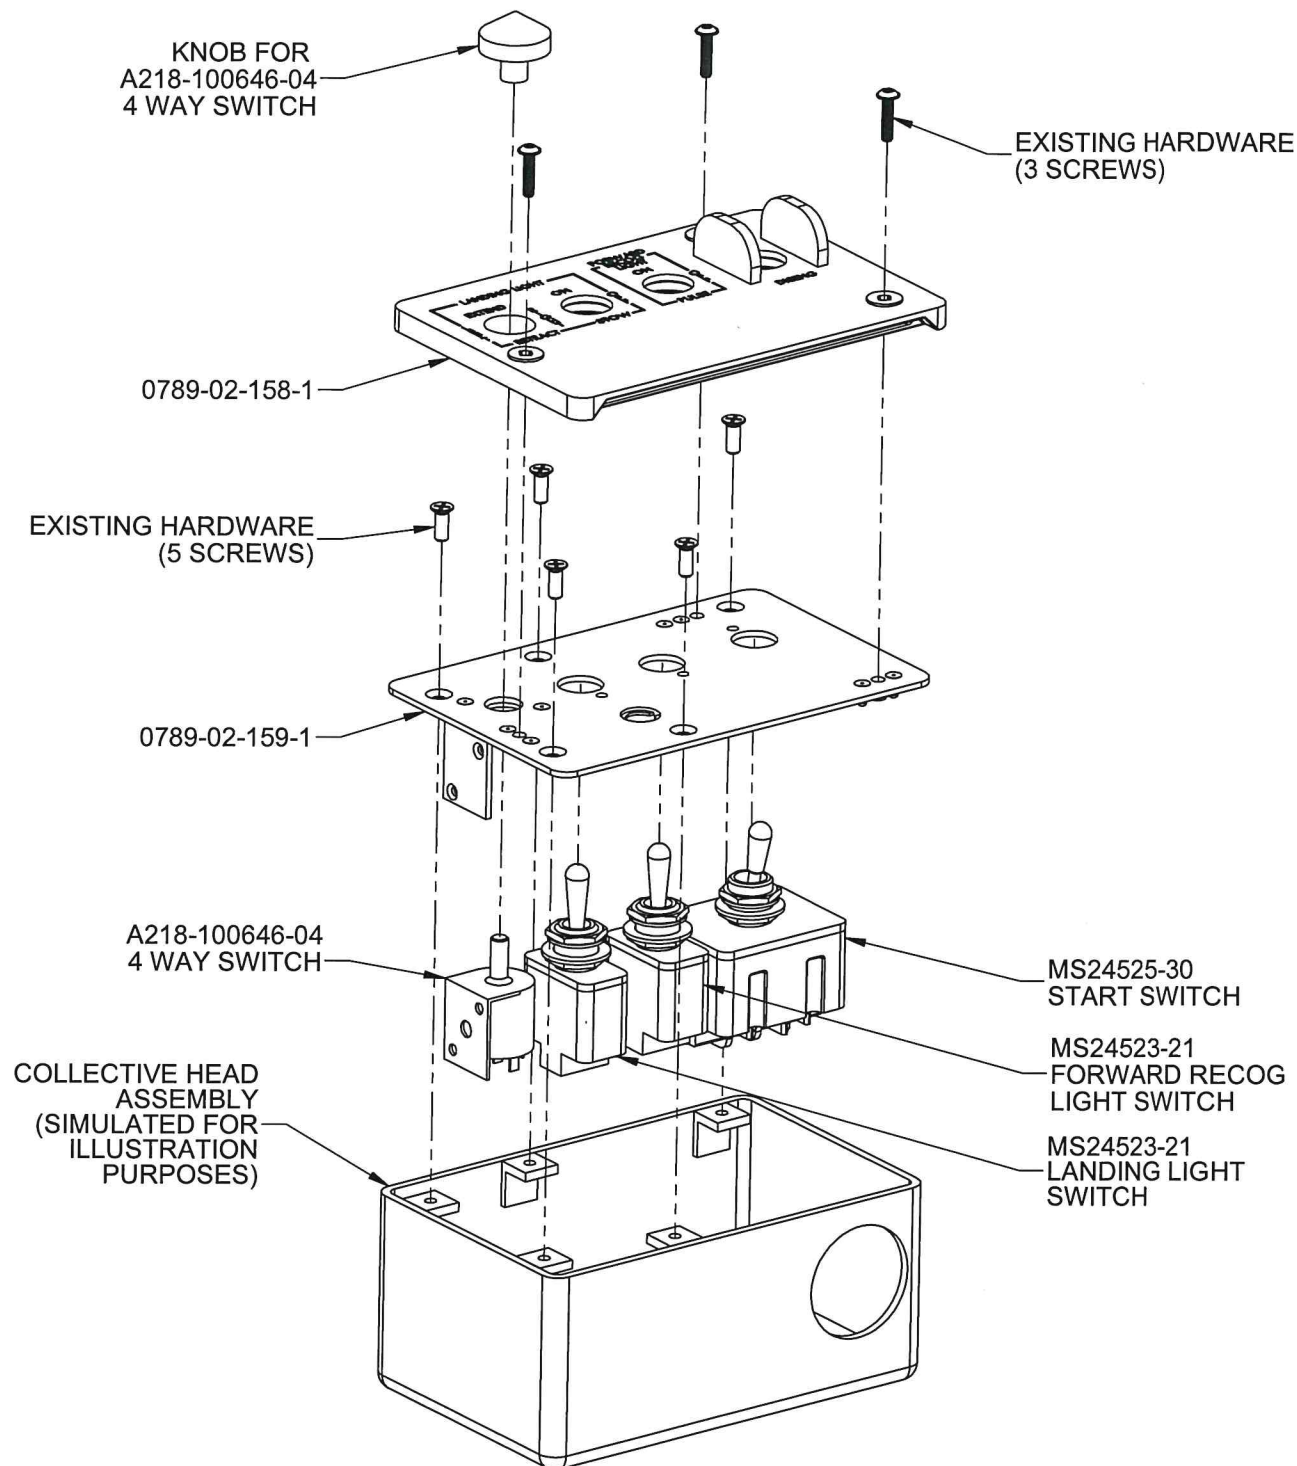

FIGURE 1: START SWITCH UPGRADE COMPONENTS INSTALLATION
4. Install P/N MS24525-30 Start Switch on the 0789-02-159-1 Switch Plate Assembly per Figure 1.
5. Install the previously removed (in step 2) 4 Way Switch, Landing Light Switch and Forward Recog Light Switch on the 0789-02-159-1 Switch Plate Assembly per Figure 1.
7. Install 0789-02-159-1 Switch Plate Assembly with Switches installed on the collective head using existing hardware per Figure 1.
8. Install 0789-02-158-1 Display Panel Assembly on the collective head using existing hardware per Figure 1.